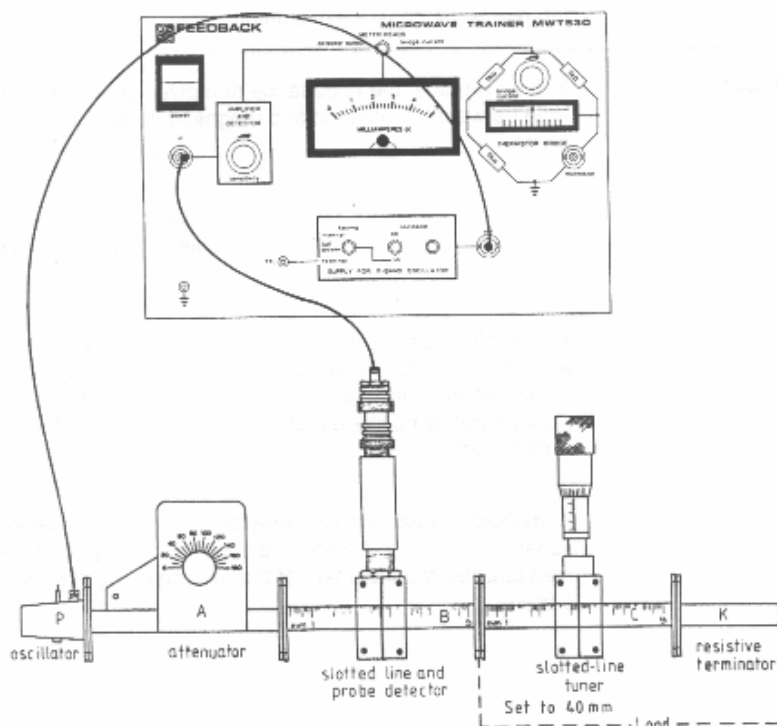

Figure 1: Experimental setup for frequency, wavelength, and standing wave measurement
- 1.1. Set up the experimental apparatus as shown in Figure 1.
- 2.1. In the setup from Figure 1, remove the load consisting of the slotted-line tuner and terminator, and connect a short-circuit element in its place.